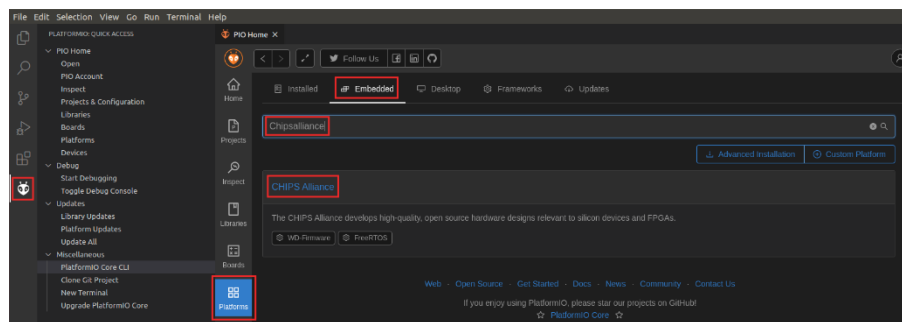

Figure 95. Selecting the CHIPS Alliance Platform
1. View the Quick Access menu by clicking on the  button, located in the left side bar (see Figure 95). Then, in the PIO Home, click on the  button and then on the  tab (Figure 95). Look for **Chipsalliance** (the platform that we use in
RVfpga) and open it by clicking on the **CHIPS Alliance** button (Figure 95).